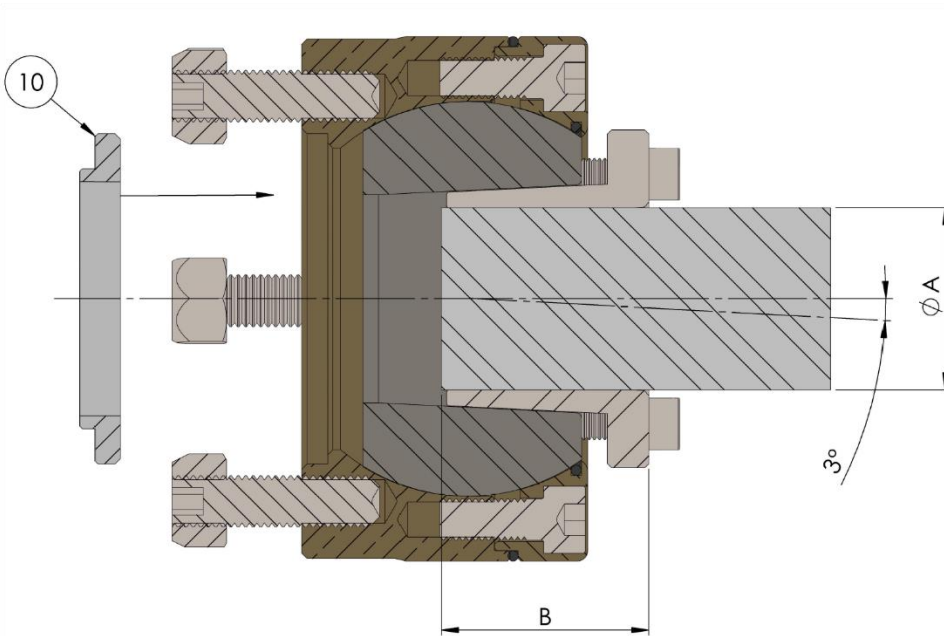

Fig 2. SigmaDrive angle drawing (Generic drawing for illustrative purposes only)
2. Insert the M10 high tensile studs (11) into the corresponding tapped holes to match the gearbox output flange, ensuring the longer threaded side of the stud is threaded into the body of the SigmaDrive. Lock the studs using the two thin M10 lock nuts (14) and the loctite **290** supplied. Remove and discard the two narrow M10 lock nuts (14) after fitting.
3. Ensure the output flange register (10) is inserted into the SigmaDrive unit prior to fitting to the gearbox flange. This will ensure the SigmaDrive is centered on the gearbox and should be a snug fit. See Fig 2.
4. **Please apply a light oil film on the outer surface of the taper lock (7), making sure that the surface between the taper and central sphere (3) is clean and well lubricated. Use WD-40 or hydraulic oil, this will aid removal. Please do not use oil with molybdenum disulfide, high pressure additives or graphite grease on either the shaft or taper lock. These substances notably reduce the friction coefficient for the clamp unit. Do not apply any lubricant between the shaft and the inside of the taper lock (7) surfaces.**
5. Carefully slide the clamp unit (7) onto the propeller shaft to the minimum depth indicated in table 2 (See Fig 2 for diagram). Maximum shaft insertion depth is 65mm.